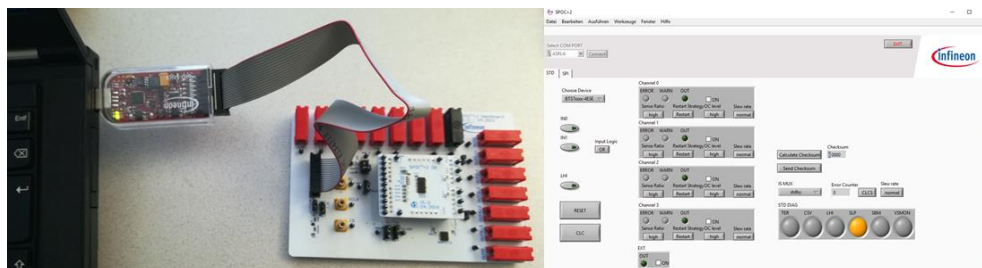

Figure 13 - Finished setup
- Connect the μ IO-Stick to your computer and run the SPOC™+2-Application. (see Figure 13)